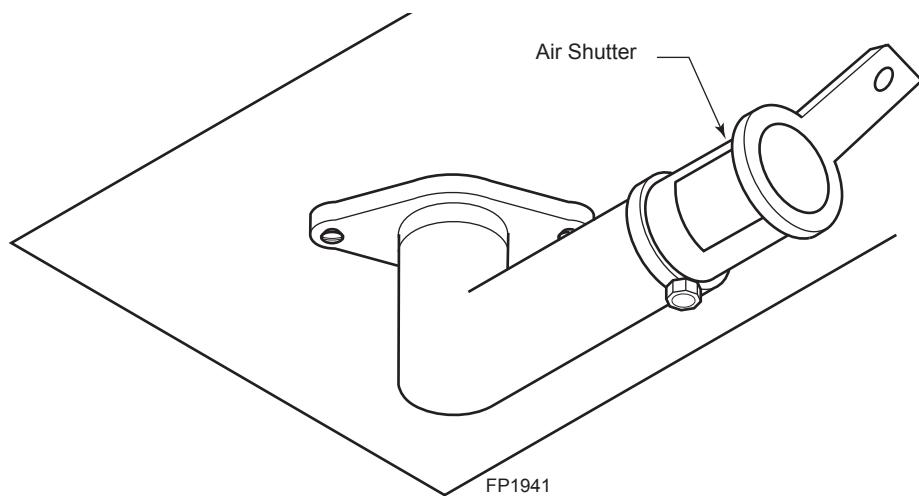

Figure 37 -
- To decrease air mixture, close the shutter. Flames will be more yellow. *Figure 37*